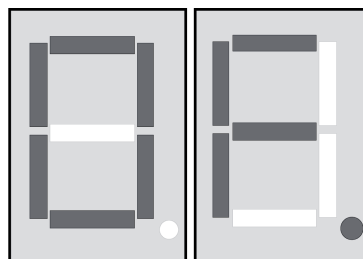

Figure 7: Indication **OF** – „Overflow“
- i** Cancel operation: Press both buttons ▲ and ▼ (12) until the right-hand decimal point goes out in the display.
- i** If all 100 memory slots are occupied, the display shows **OF** (Figure 7).